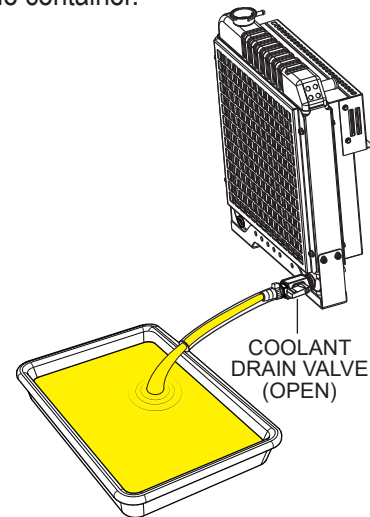

Figure 130. Draining The Engine Coolant
2. Place the **coolant drain valve** in the **OPEN** position (Figure 130) and allow the coolant to drain into a suitable container.